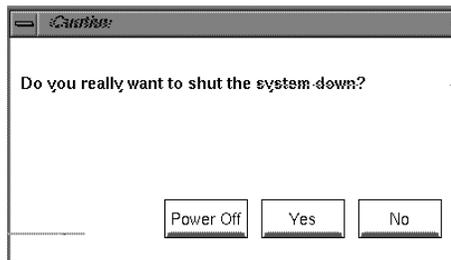

Figure 1 System shutdown notifier.
- Press the left or right mouse button so that you see the menu. Drag the cursor down the menu until "System Shutdown" is highlighted; then click the mouse button. After a few seconds you see the notifier shown in Figure 1.